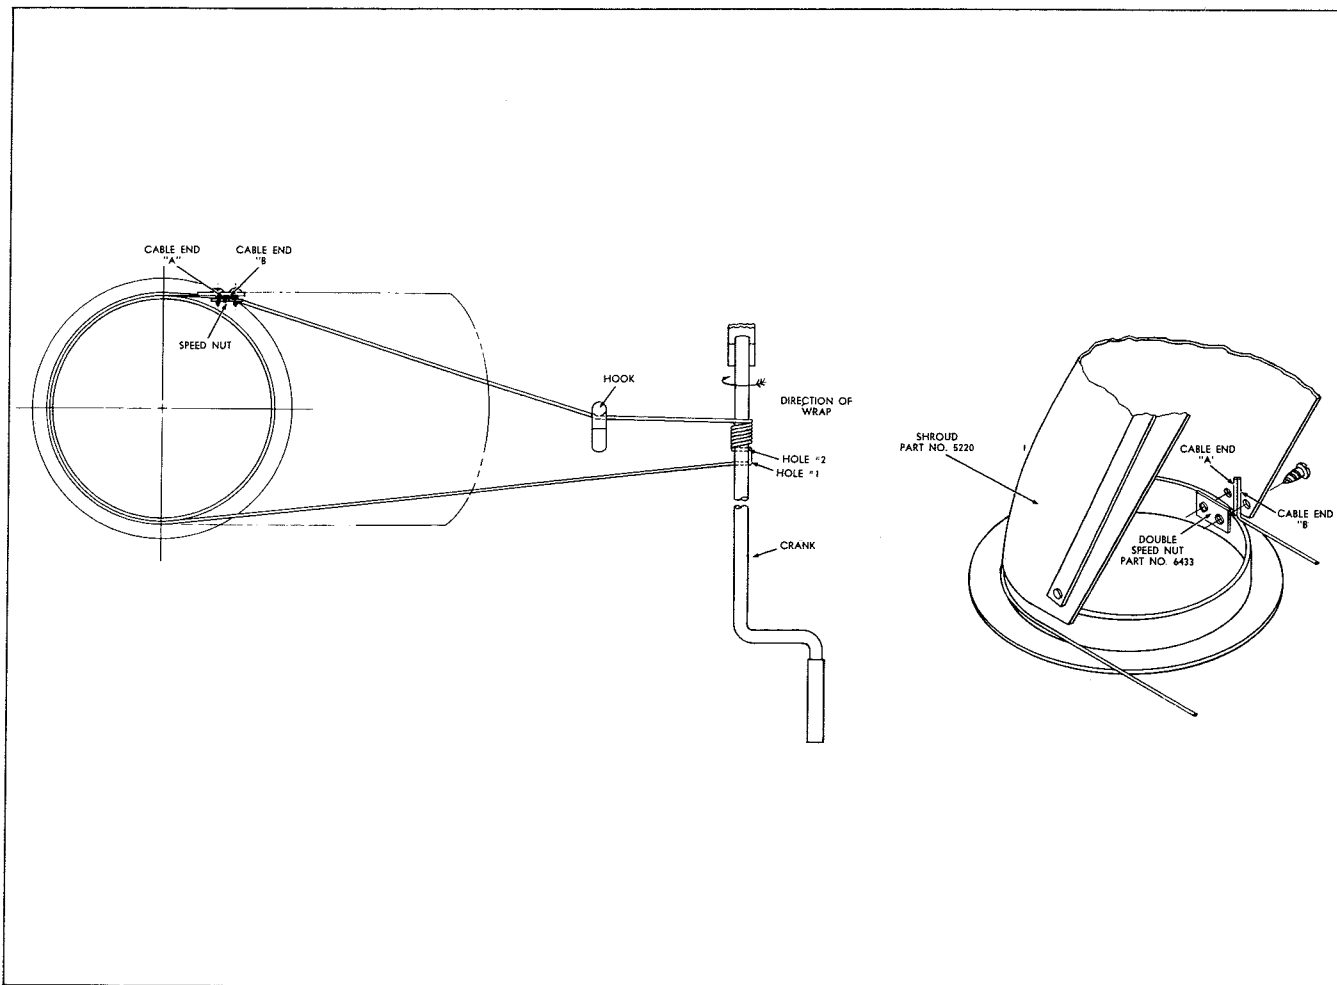

Figure 4
3. Pull cable around the shroud and thread end "B" of cable through hole #1 then back through hole #2 in Crank, Part No. 6413, and then wrap seven (7) complete turns in direction shown in Figure 4. Finish last turn on top of crank. Pull cable end "B" behind the hook on the wrapper assembly and thread up under the double speed nut. Retighten screws just enough to retain cable.